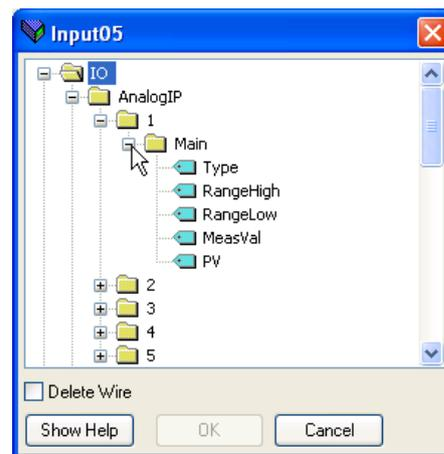

Figure 7.5b Browser window
1. Double click the next available position, in the 'Wired From' column, in the input or output data table and select the variable to assign to it. A pop-up (figure 7.5b) provides a browser from which a list of parameters can be opened.
To delete a wire, double click in the 'Wired From' column of the Input/Output Definition window to open the pop up browser window, Figure 7.5b. Tick the 'Delete Wire' box.